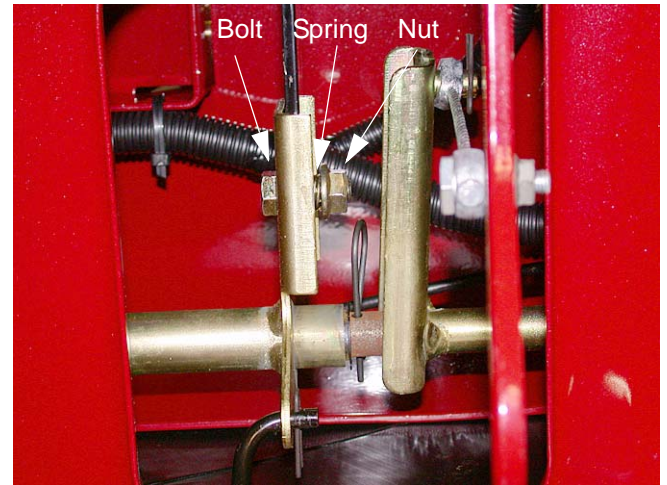

Figure 17.8
- 17.8. Using two 9/16" wrenches remove the bolt, nut, and spring on the brake handle on the left handle side of the deck lift shaft. See Figure 17.8.
- 17.9. Remove the hairpins securing the deck lift cables to the deck lift shaft. See Figure 17.8.